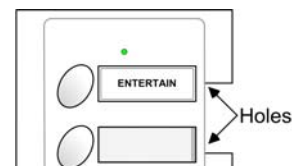

Figure 9. Lens Release Locations
Step 10: Label the Scene Switch Buttons. Remove the lenses beside each button by inserting a small tool, such as a paper clip, into the holes on the side of the bezel. Refer to Figure 9. After the lenses have been removed, apply any of the provided descriptive labels. Replace the lenses.